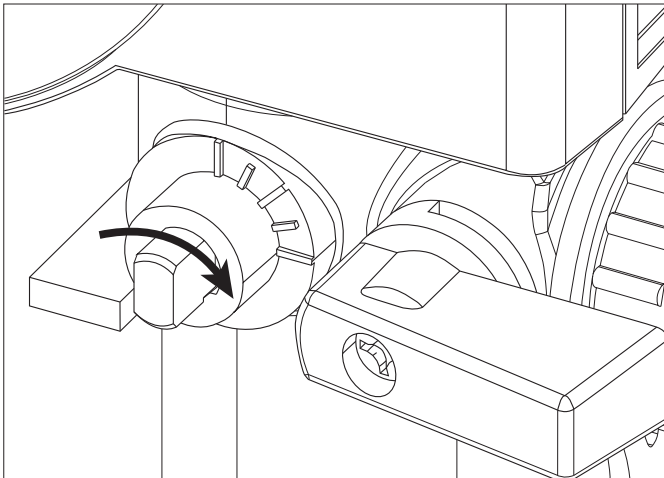

Figure 4-7: Rotating the filling/shut-off valve 90° clock-wise
3. Using a small spanner to rotate the Filling/Shut-off valve 90° clock-wise to open it. Refer to Figure 4-7. This will divert the flow from the filling station through the pump, up to the collectors, through the coil of the cylinder and back to the filling station via the filling return valve.